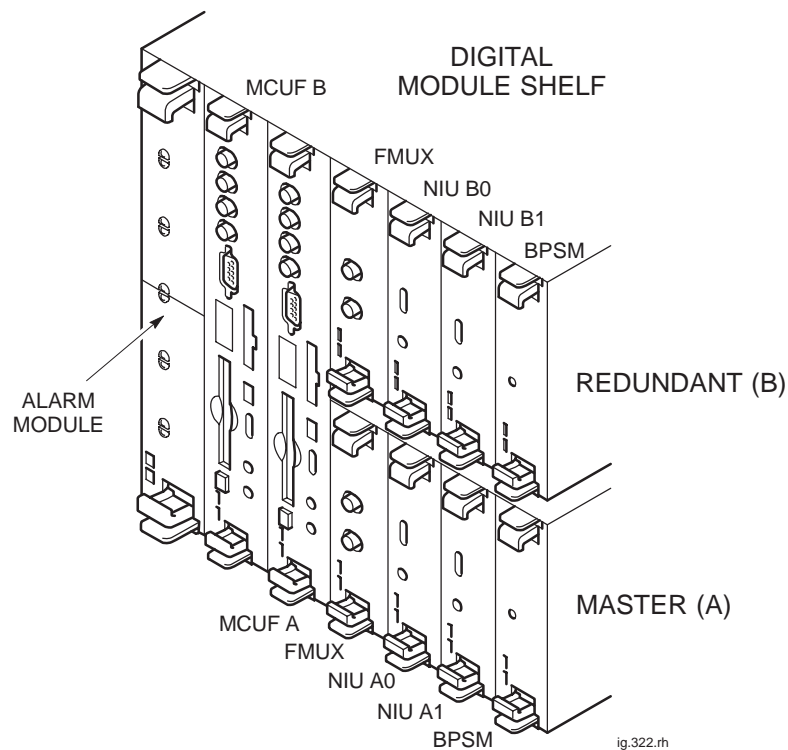

Figure 2-13 Digital and BPSM module locations, including optional redundancy
Figure 2-13 shows the location of modules within the digital module shelf.
2. Locate the faulty module, as shown in Figure 2-13.